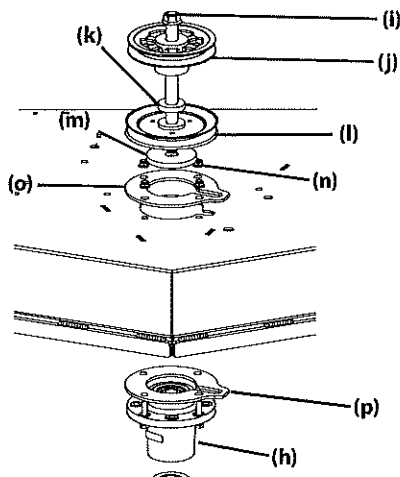

Figure 40
10. Remove the hex bolt (i), drive pulley (j), washer (k), spindle pulley (l) and spacer (m) from the front spindle assembly (h). See Figure 40.
11. Remove the four flange lock nuts securing the (n) upper support plate (o), lower support plate (p) and front spindle assembly (h) to the deck. See Figure 40.